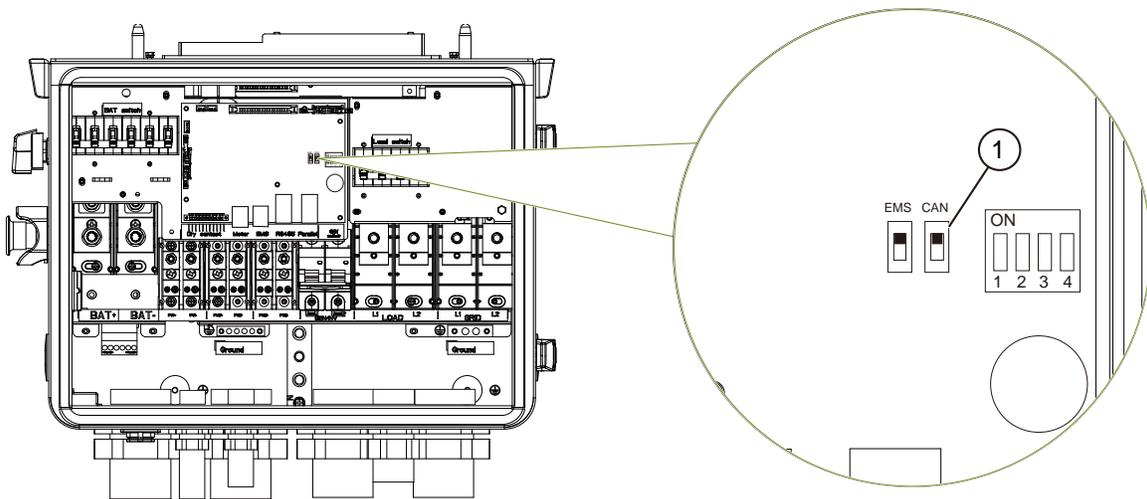

Figure 4-19 Positions of Grid and Load Terminals
The positions of the Grid and Backup Load terminals are shown in Figure 4-19 below. Before parallel connection, turn the CAN DIP switch ① of each inverter to the ON position.